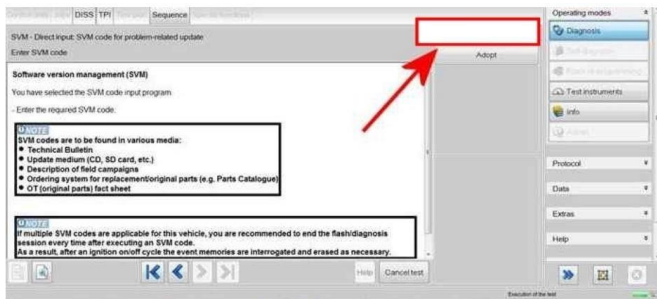

Figure 3
- The SVM action will then take place (Figure 3)